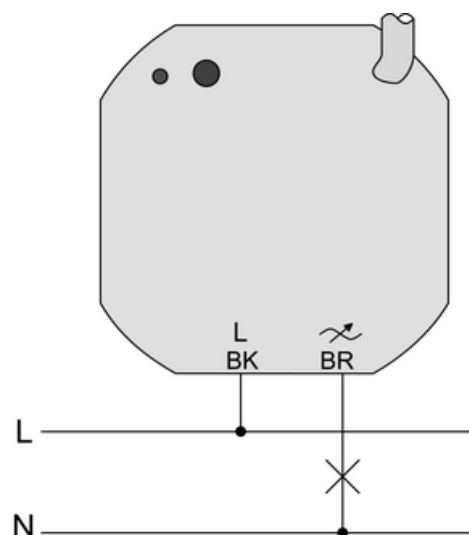

Figure 5: Connection
- Connect the load (Figure 5). Use the supplied sprung screwless terminals. Flexible cable ends must be tin-plated.